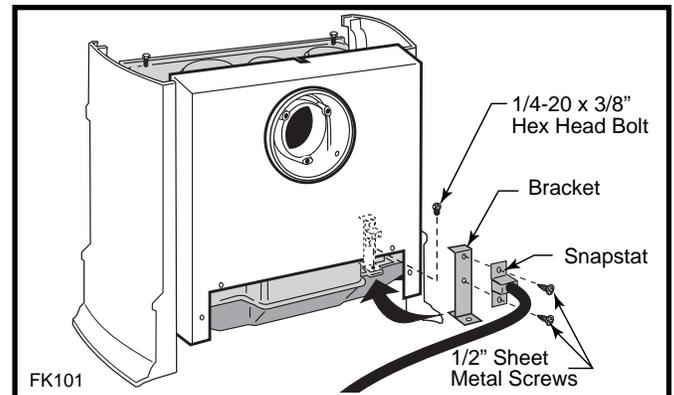

Fig. 17 Snapstat assembly and installation.
2. Locate and remove the 1/4-20 x 3/8" hex head bolt installed in the hole in the right rear ledge of the firebox. (Fig. 17) Use that bolt to secure the Snapstat Bracket to the firebox. The mounting hole is slotted to allow you to adjust the bracket so that its head makes contact with the firebox surface. (Fig. 17)